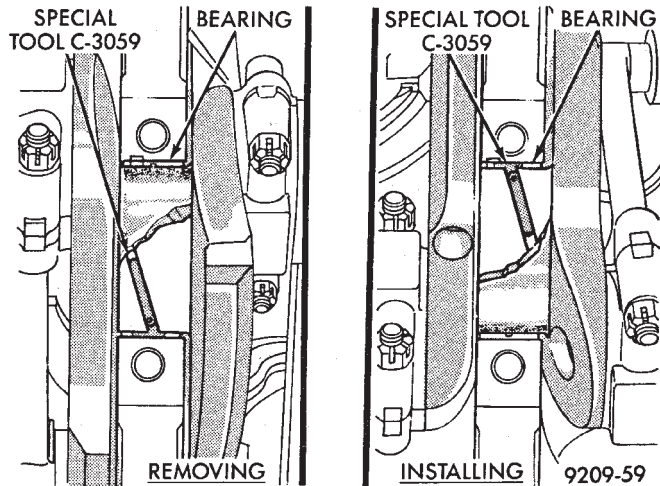

Fig. 36 Upper Main Bearing Removal and Installation with Tool C-3059
(1) Remove the oil pan.
(2) Remove the oil pump from the rear main bearing cap.
(3) Identify bearing caps before removal. Remove bearing caps one at a time.
(4) Remove upper half of bearing by inserting Crankshaft Main Bearing Remover/Installer Tool C-3059 into the oil hole of crankshaft (Fig. 36).
(5) Slowly rotate crankshaft clockwise, forcing out upper half of bearing shell.
- (1) Start bearing in place, and insert Crankshaft Main Bearing Remover/Installer Tool C-3059 into oil hole of crankshaft (Fig. 36).
- (2) Slowly rotate crankshaft counterclockwise sliding the bearing into position. Remove Tool C-3059.
- (3) Install the bearing cap. Clean and oil the bolts. Tighten the capbolts to 115 N·m (85 ft. lbs.) torque.
- (4) Install the oil pump.
- (5) Install the oil pan.